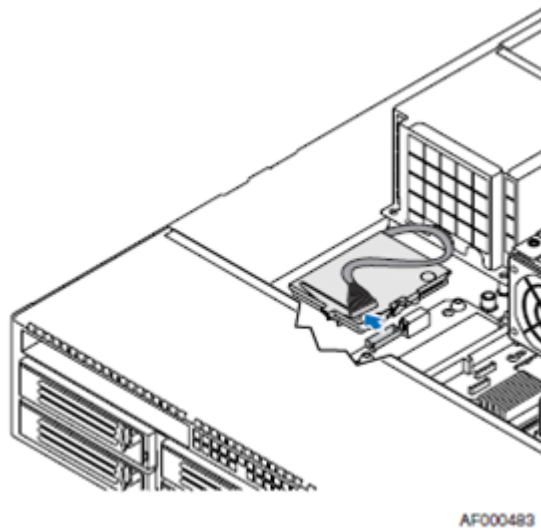

FIGURE 1 – Unplugging the Cable
2. Unplug the cable from the active midplane board (see Figure 1).